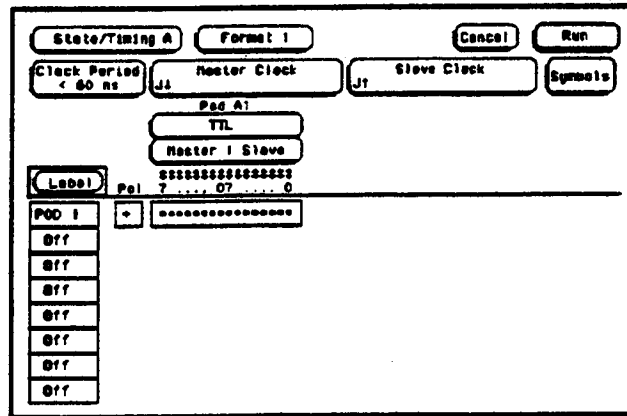

Figure 3-31. Format Screen
4. Set up Format screen as in figure 3-31, assigning a falling clock edge as master clock and rising edge of same clock as slave clock. Refer to steps a through c if unfamiliar with the menus.